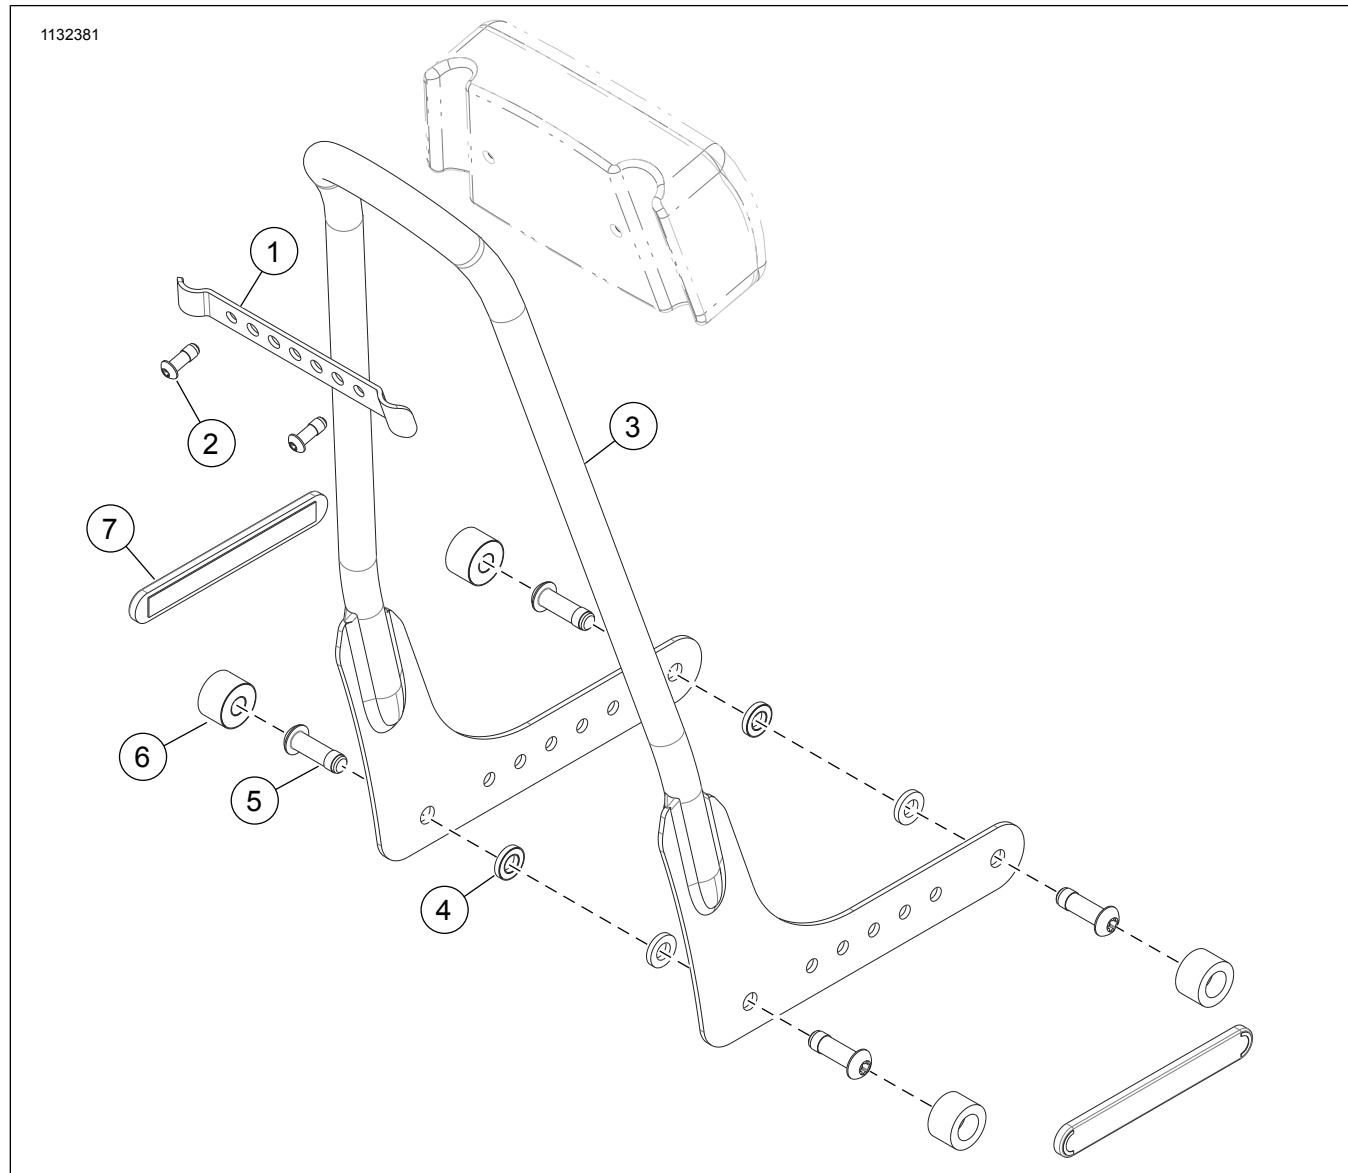

Figure 2.
See Figure 2 and Refer to Table 1. and Table 2.
See Figure 2. Install narrow washers (4) to backrest assembly (3).
1. See Figure 2. Install backrest assembly (3).
2. Install screws (5) from kit. Tighten.
See Figure 2. Install wide washers (6) to backrest assembly (3).
2. Install backrest assembly (3).
3. Install reflectors (7) over decorative holes in sideplate.
4. Apply threadlocker. Install screws (5) originally removed from saddlebag or docking points.